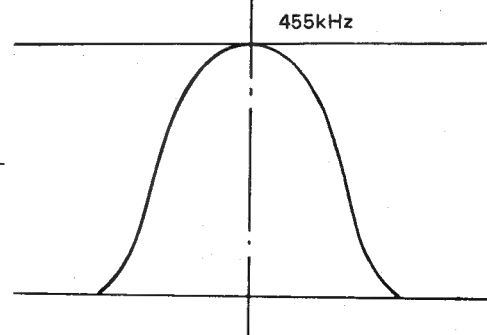

Figure 16.
5. Reduce the output of sweep generator to become low enough to provide the waveform level as shown in Fig. 16.
6. Adjust the cores of CF2 and TA02 so that IF waveform becomes as shown in Fig. 16: the waveform then must be symmetrical in right-to-left direction with the best sensitivity.